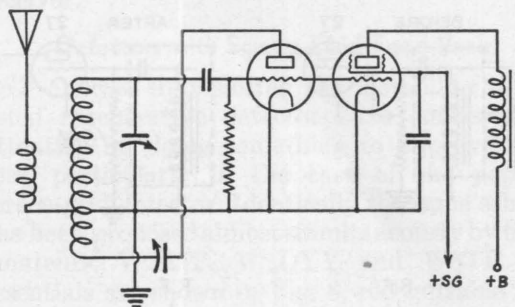

FIG. 4
H. T. PETERSEN, OZ7Z, recommends the diagram shown in Fig. 4 for the screen-grid detector circuit. It is another of the family of circuits using a separate tube for regeneration. The screen-grid tube is the detector, while the triode furnishes the regeneration and oscillation. The voltages on the screen-grid detector may be adjusted for maximum sensitivity without making allowance for regeneration control. Likewise the triode circuit may be adjusted for greatest smoothness of control without making concessions for sensitivity.